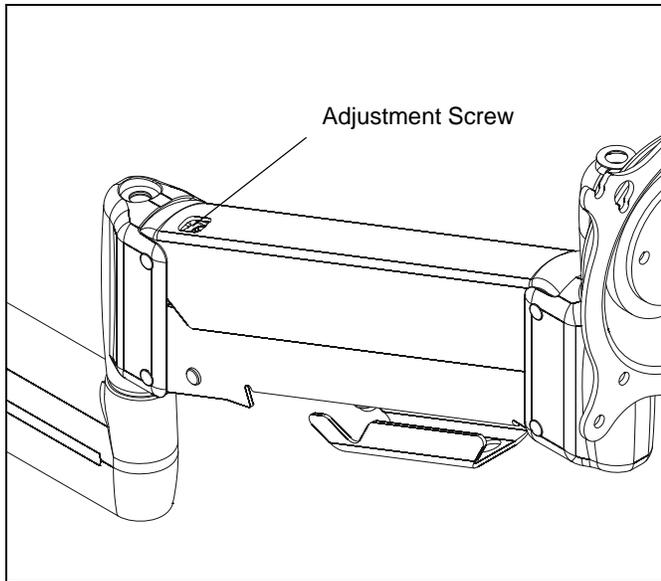

Figure 57
1. Using 5/32" hex key, slightly loosen or tighten the adjustment screw as necessary. (See Figure 57)